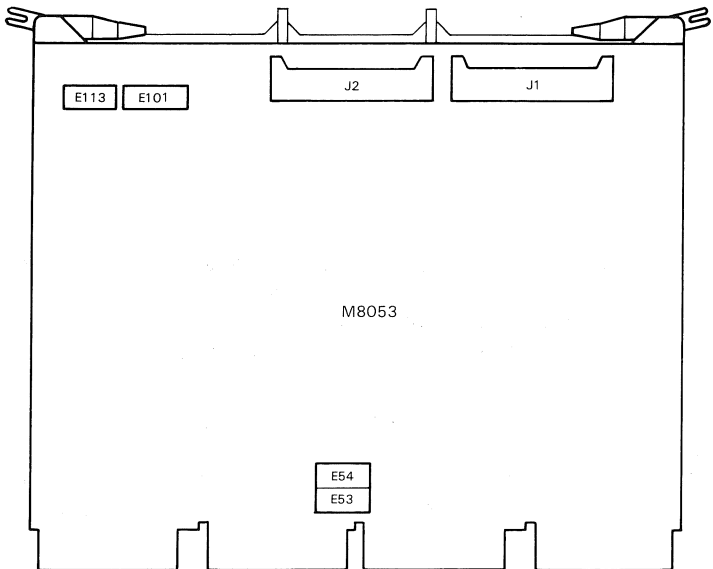

Figure 1 M8053 Switch Locations
- Device address assignments: The DMV11 address resides in the floating address space of the LSI-11 bus addresses. The selection of the device address is accomplished by switch packs on the microcontroller/line unit module. Refer to Figures 1 and 2, and Table 3.
controller/line unit module. Refer to Figures 1 and 2, and Table 4.
- Device selectable feature: Please refer to Figures 1 and 2, and Table 5.